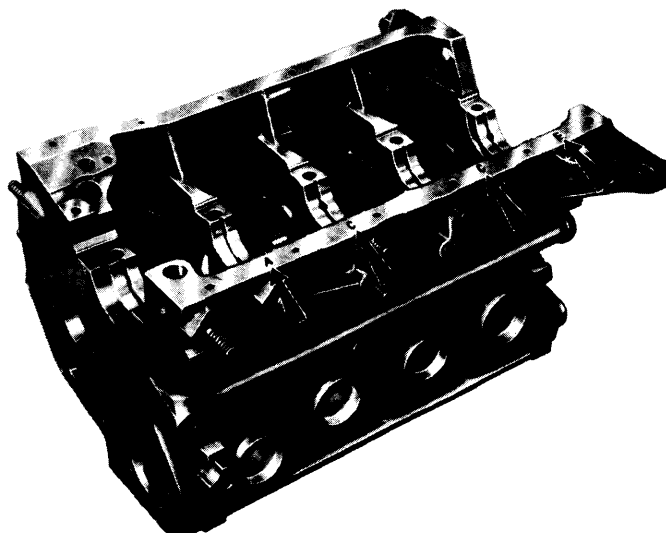

Fig. 4 Piston Bore Class Designation Marks
- 3) Measure piston size at right angle to piston pin and 1.876 (47.65 mm) below piston head. If piston is replaced for any reason, one of the same class must be installed. *NOTE* — Refer to class designation on cylinder block (see Fig. 4).